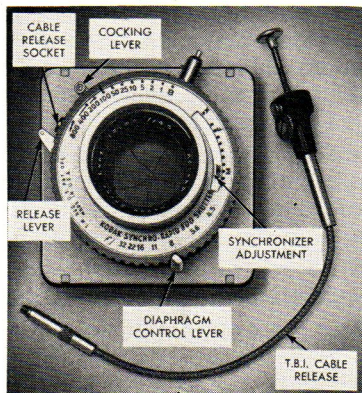

Fig. 46 Synchro Rapid 800 Shutter
The Kodak Synchro Rapid 800 Shutter: The 800 shutter is a rim-set, cocking shutter which has a range of ten speeds from one to 1/800 second including Bulb (B) for time exposures. Built-in synchronization is provided for type F, type M and high speed electronic flash units having zero delay (fig. 46).